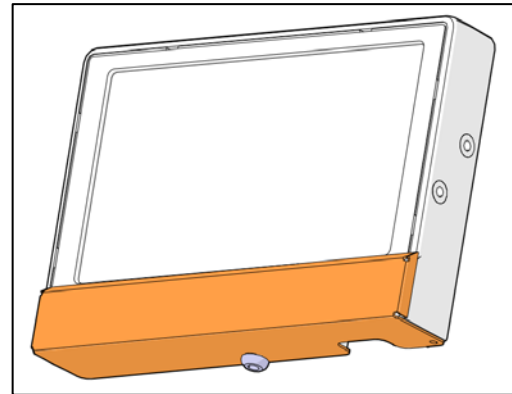

Figure 8
- 16. Tighten the screw (Figure 8).